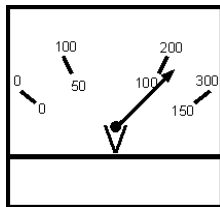
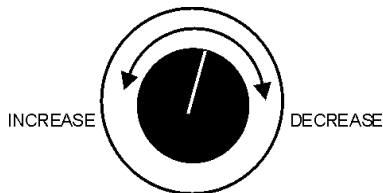

Figure 45. Voltage Meter (Volts)
Figure 46. Voltage Adjust Control Knob
10. The generator's voltage meter (Figure 45) displays the 120 VAC in **VOLTS**. If the voltage is not within the specified frequency tolerance, use the voltage adjustment control knob (Figure 46) to increase or decrease the desired voltage.